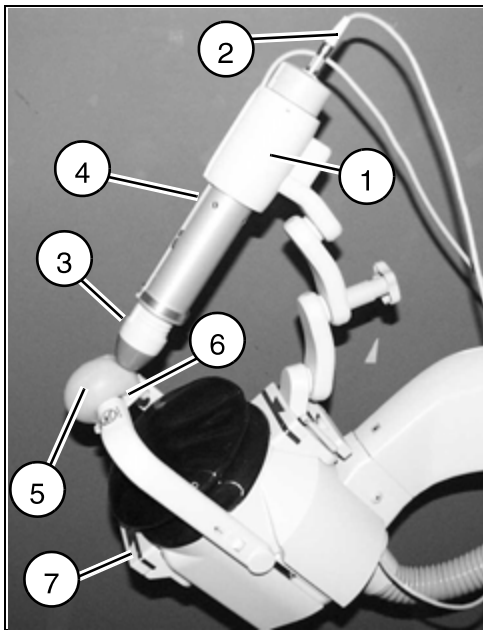
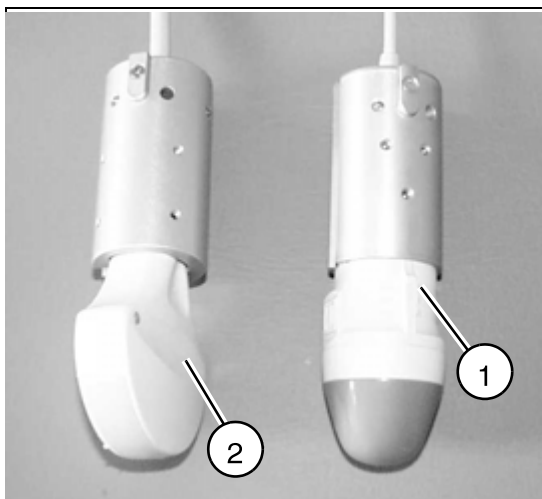
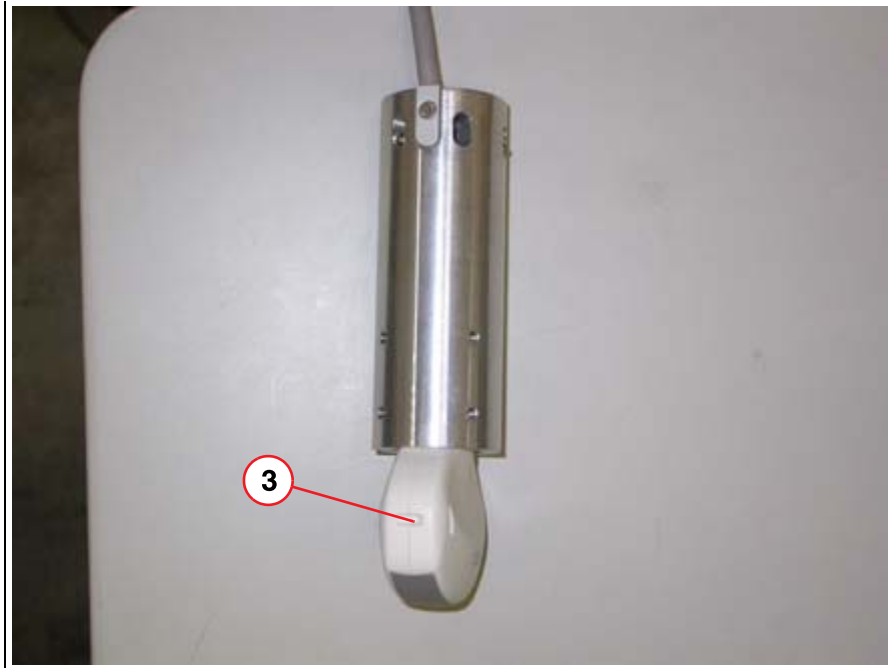

Fig. 62: View of unit
Fig. 63: Probe 01
Fig. 64: Probe_2
- Install the mount (1/Fig. 62 / p. 60) (see also operating instructions).
- Insert one of the ultrasound probes (sector probe (1/Fig. 63 / p. 60) or array probe ((2/Fig. 63 / p. 60) or (3/Fig. 64 / p. 61)) into the mount (3/Fig. 62 / p. 60). Carefully lay the cable for the probe in the long slot (4/Fig. 62 / p. 60).
- Plug in the cable (2/Fig. 62 / p. 60) and connect the probe to the ultrasound unit.
- Secure the water bladder (5/Fig. 62 / p. 60) to the isocenter phantom with the holder (6/Fig. 62 / p. 60).
- Move the probe forward (3/Fig. 62 / p. 60) until the isocenter crosshair is approx. in the center of the SONOLINE G20 screen.
- Check whether the ultrasound arm is positioned as shown in (Fig. 62 / p. 60). If not, position it accordingly. The long slot must be visible (1/Fig. 70 / p. 65).